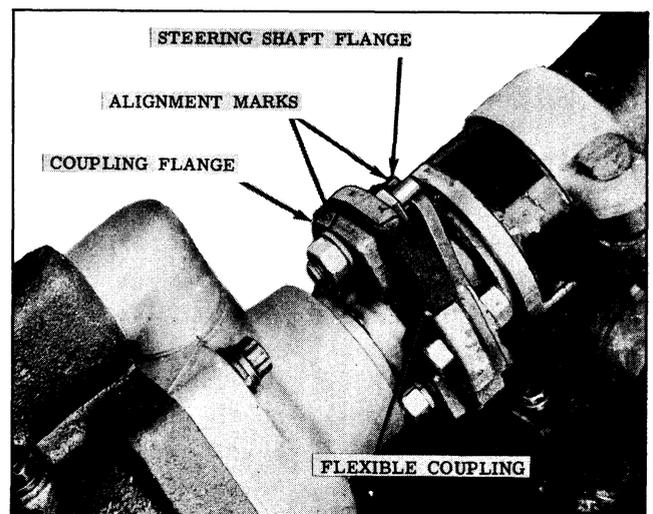

Fig. 5-93 Alignment Marks
**NOTE:** If steering shaft or flexible coupling is to be replaced, scribe an alignment mark on the coupling flange adjacent to the large type flexible coupling bolt so that the parts may be lined up correctly upon reassembly. (See Fig. 5-93)